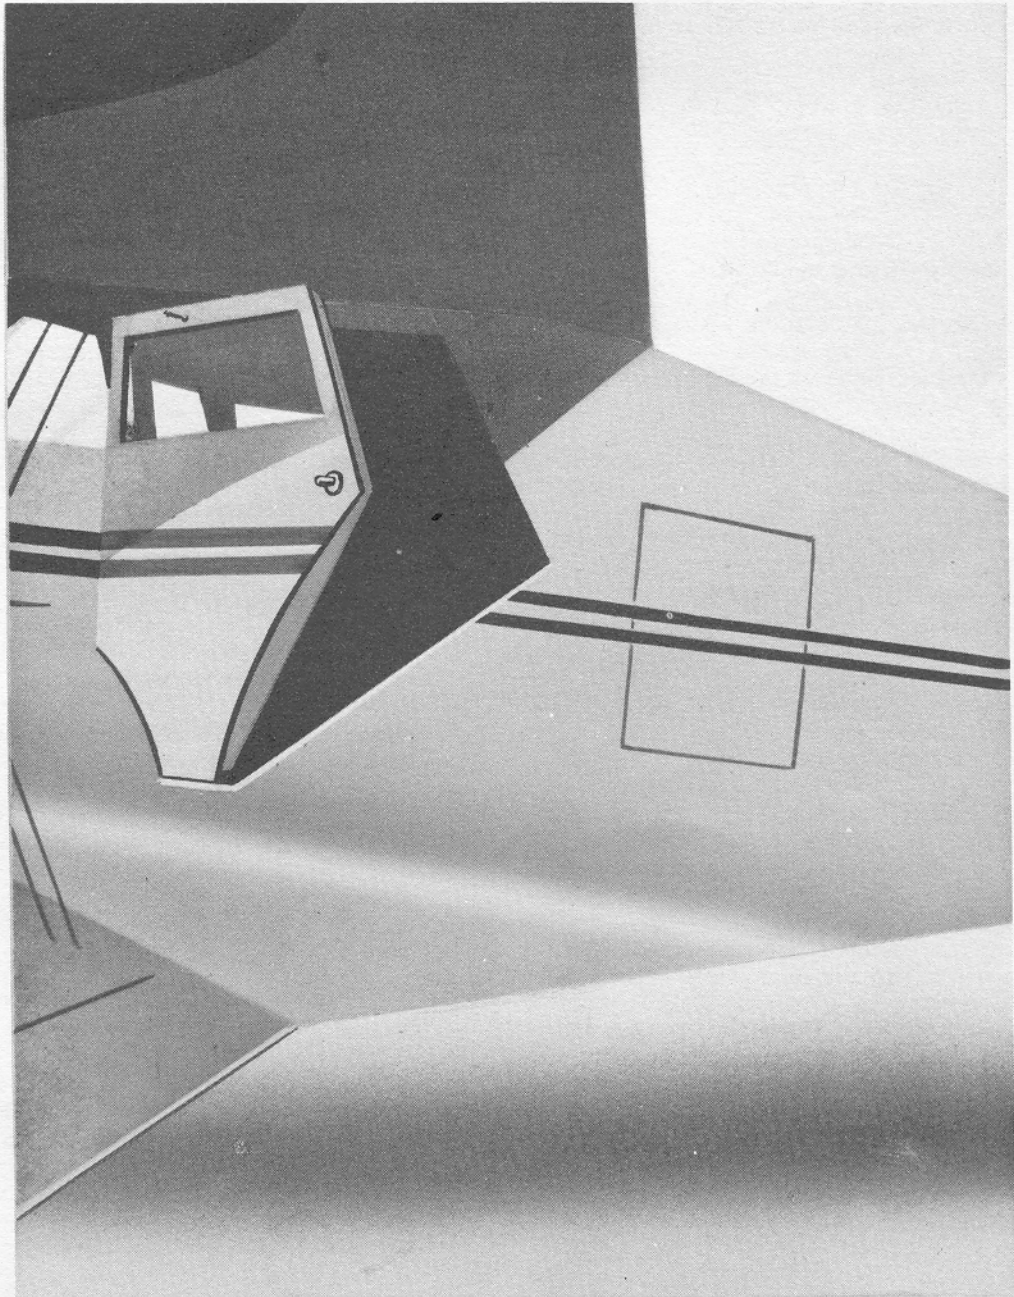

Figure 11 - Fuselage Doors
b. Access to Airplane. (See figure 11.) - Access to the main cabin is gained through a door on the left side of the fuselage above the lower wing and below the upper wing. Access to the cargo compartment is obtained through a smaller door aft of the entrance door. No access to the cargo compartment from the interior of the cabin is provided.